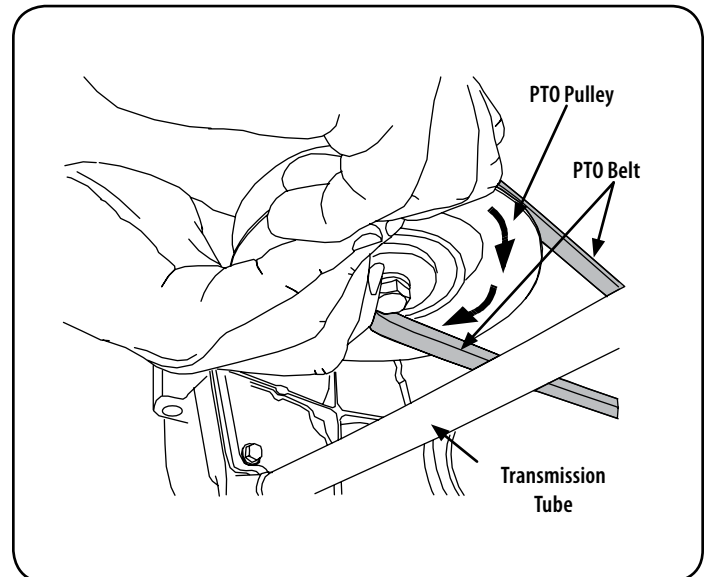

Figure 35
- d. While still holding the belt downward, continue turning the PTO pulley until the belt is rolled off the pulley. Refer to Figure 35.
- Pull the right side of the belt rearward and place the narrow V side of the belt into the PTO pulley. See Figure 35.
- While holding the belt and pulley together, rotate the pulley to the left (See Figure 35). Continue holding and rotating the pulley and belt until the belt is fully rolled into the PTO pulley.